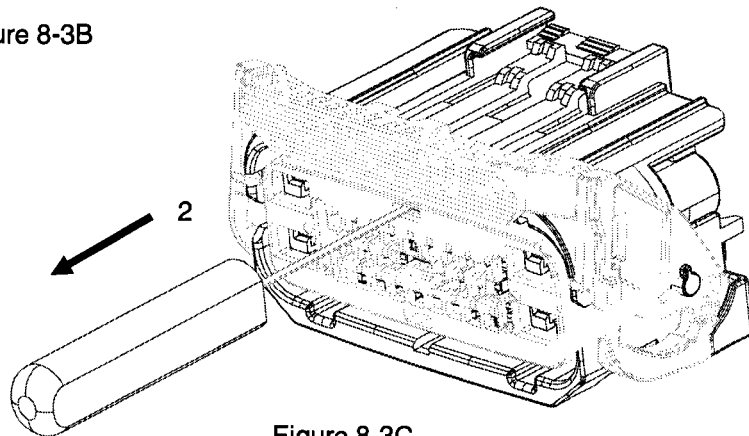

Figure 8-3C
5. For complete TPA removal, put the hook tool in the slot in the top middle of the TPA as shown in Figure 8-3C and pull in the direction of arrow '2'. Move hook tool to the bottom slot and pull in the direction of arrow '2' again. Repeat until the TPA is removed.